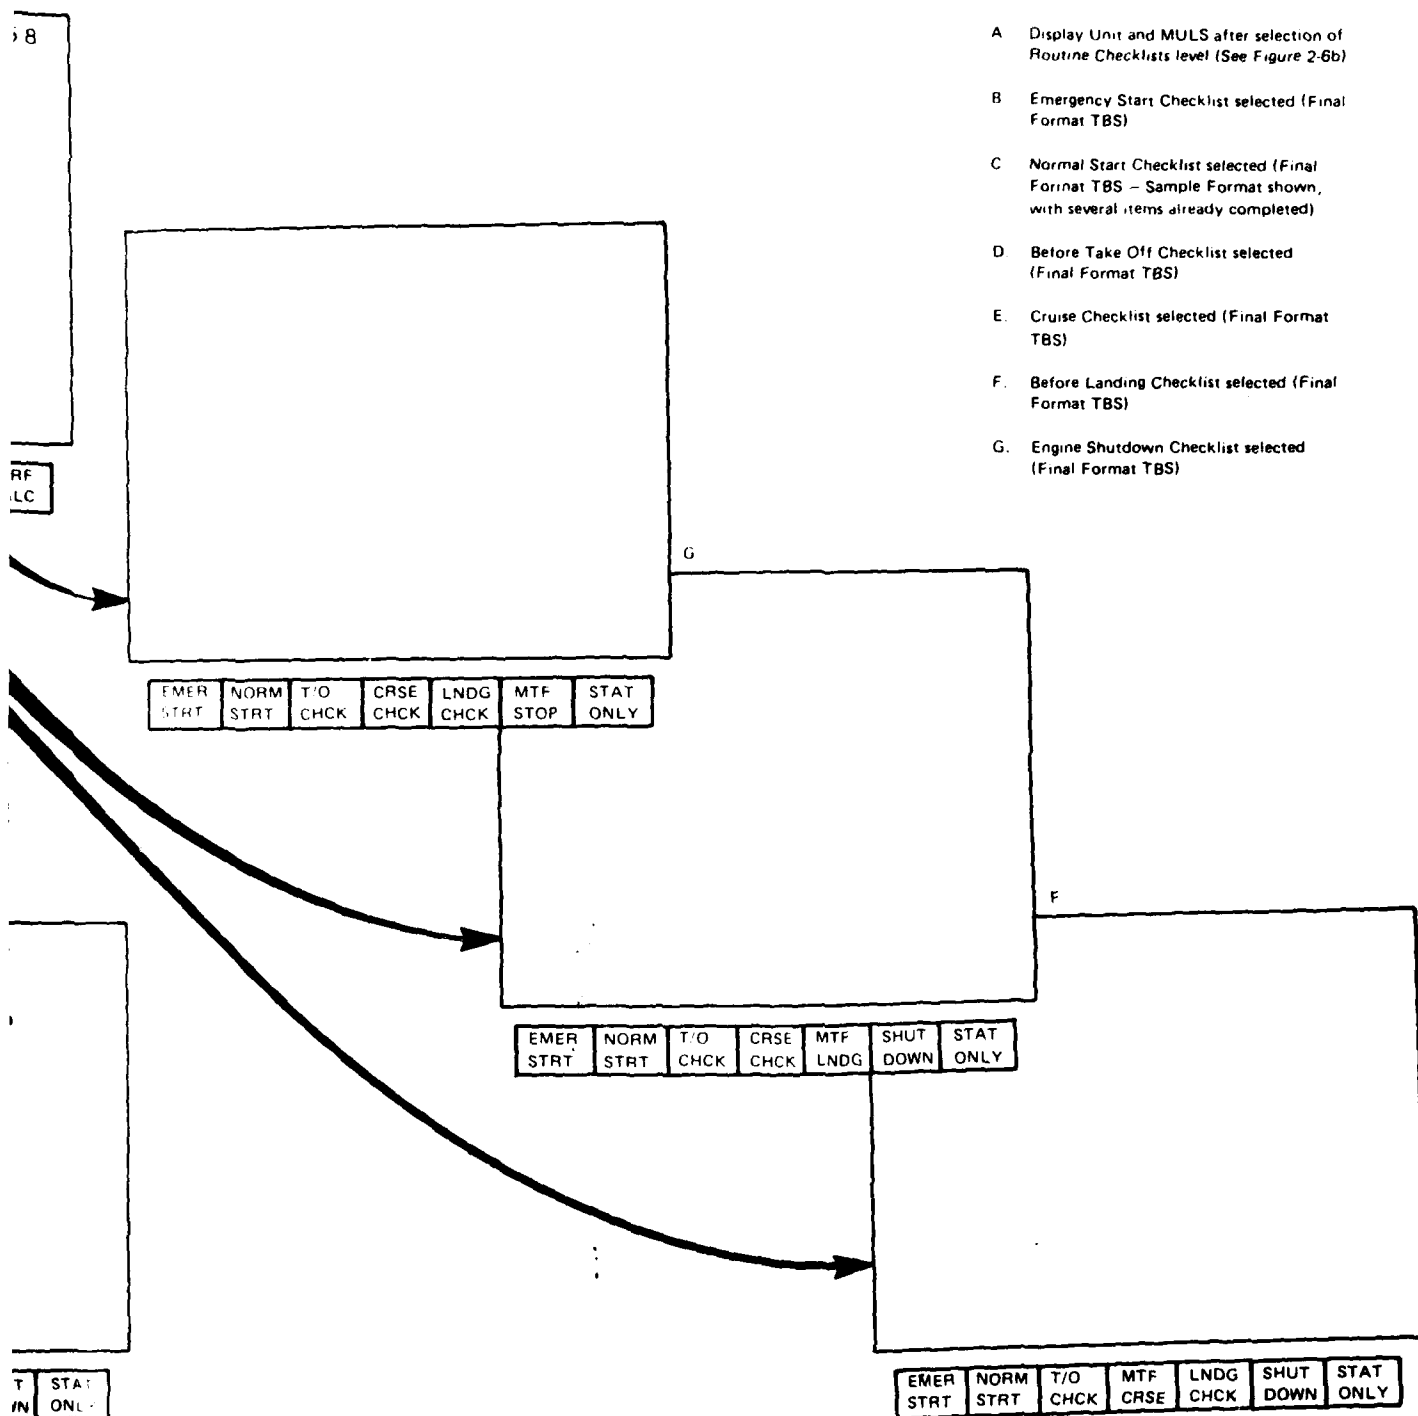
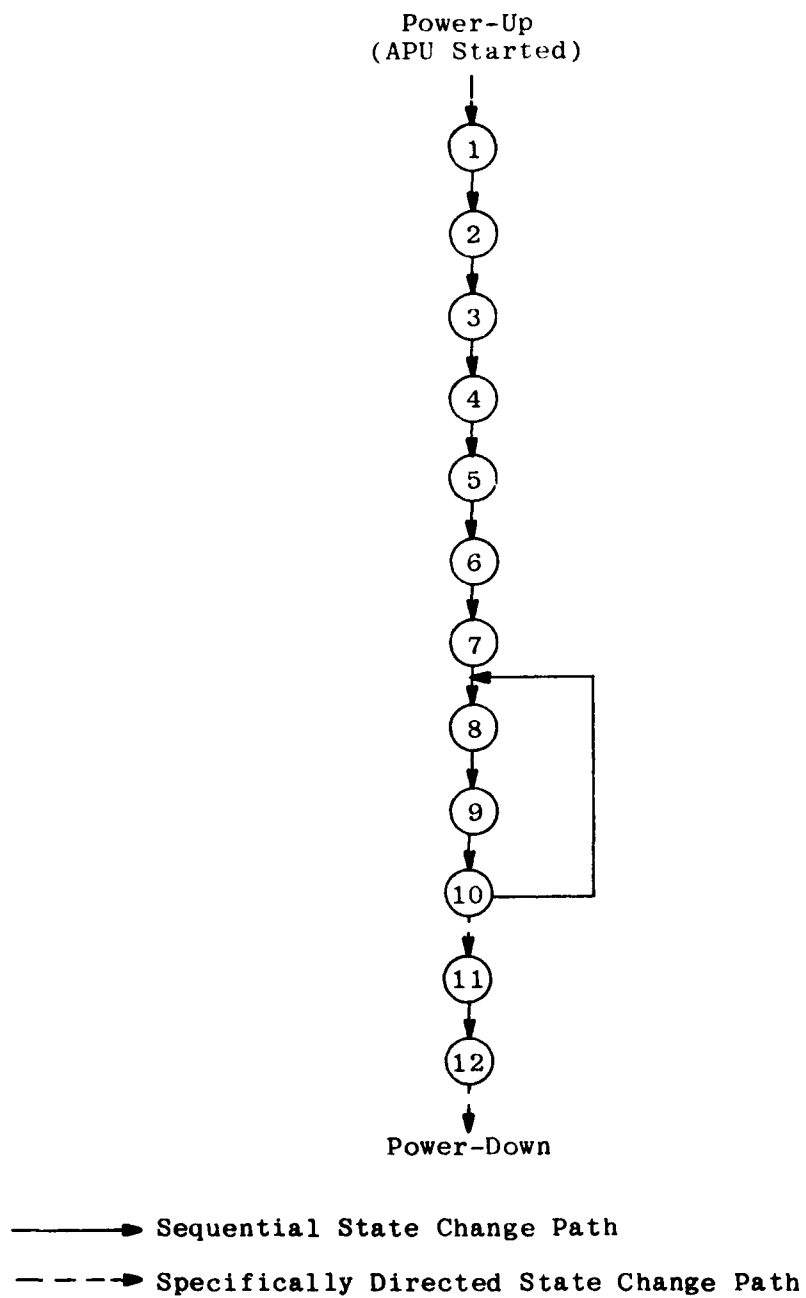

Figure 9. MLDS Operation -
Figure 10. Normal Operational State Sequence
The legends may be changed simultaneously to the Routine Checklist Level by depressing the "CHCK LSTS" switch, as shown in Figure 8. This also clears the display except for the Dedicated Status Area. The six left-most switches now provide for selection of various routine checklists, to be displayed in the combined Warning Message and Subsystem Data Areas. As shown in Figure 9, depressing any of the first six switches changes the legend of that switch and the right-most switch, as well as presenting the first page of that checklist on the display. For example, in Figure 9c, the Normal Starting Engines checklist is selected ("NORM STRT" depressed). Depressing that same switch again (now labeled "MTF STRT" in the example shown) calls up a different checklist for display and would change that switch legend back to the previous one ("NORM STRT"). All of the first six switches
The EMMADS secondary functions are related to the flight phases. It is convenient to define the time span from system power-up to power-down as a flight. Each flight, in turn, may be divided into a number of sorties where a sortie begins with a take-off (from the ground or from hover to forward flight) and ends with a landing (to a hover or to the ground). The EMMADS may then be envisioned as normally cycling through various states based on the stage of flight. The current operational state is described by the particular routine checklist which the system is currently running or last finished running. The checklists applicable to the CH-47C are shown in Table 4, including a set of operating conditions (called modification parameters) that modify the indicated checklists. The flight state numbers shown next to each checklist are used in Figure 10 to indicate how the EMMADS would progress from state to state in any flight. It should be noted that it would be quite natural to regroup these checklists into the categories illustrated in Figure 9.
In Figure 10, a method of communicating flight state changes to EMMADS is shown. Differentiation is made between two methods of progression from one state to the next. The sequential state change paths could be brought about through the use of the ACK switch. As EMMADS moves to a new flight state, the associated routine checklist could be displayed. After the last item in a given checklist is completed, (provided there are no faults requiring acknowledgement) actuation of the ACK switch would enable the next checklist in the sequence shown.
- c) If the checklist option is elected, this essentially places the system in State 1 of the secondary functions mode, as shown in Figure 10. Although the final checklist formats are TBS (based on the final results of human factors testing), a sample format is illustrated in Figure 11. This shows the essential elements of an EMMADS managed checklist, which are:
- (1) An indication by the system of what the current checklist item is,
- (2) A description of the action(s) to be taken by the crew for each item plus the required response, and
- (3) An acknowledgement by the system that an item is complete.
The checklists are indexed by having the current checklist item (boxed procedure description) move down from the top until it is in the middle of the screen. From this point on the checklist items are scrolled from bottom to top so that the current item always maintains the same relative screen position. When the last item in a checklist is completed, the next actuation of the ACK switch clears the display but the system remains in the state associated with that checklist (see Figure 10 and Table 4).
- e) If no checklist is being run and no faults are pending, actuation of the ACK switch or an appropriate MLDS causes a sequencing within the secondary functions mode to the next appropriate state (see Figure 10) and displays the routine checklist associated with that state.